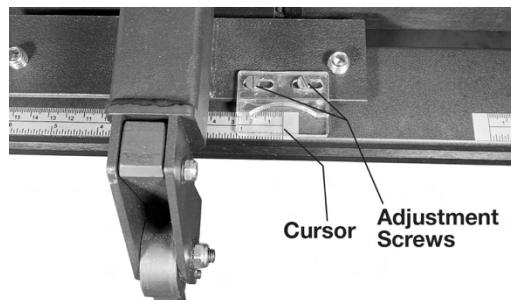

Figure 5-28
2. If adjustment is needed, loosen the two cursor adjustment screws (see Figure 5-28) on the fence body and nudge fence plastic cursor plate right or left until cursor aligns with zero when fence is against blade.